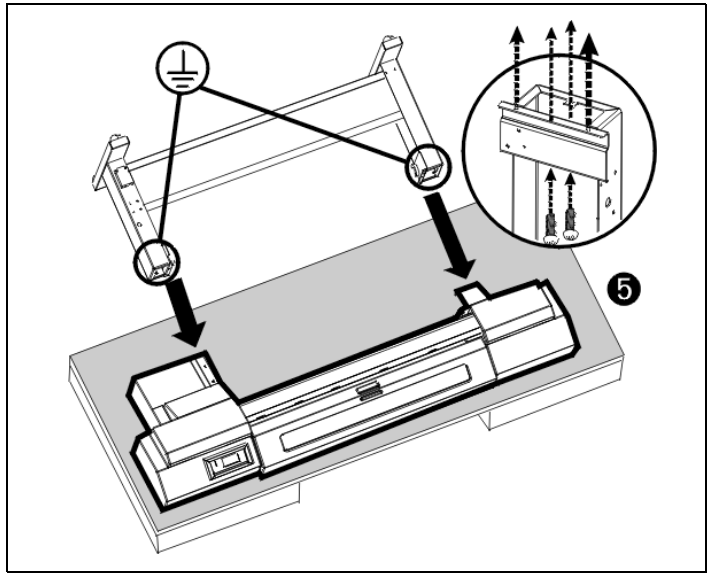

Fig. 1-2. Assemble the printer module and stand
2. Position the printer module **5** and stand for assembly as shown in Fig. 1-2.
3. Using the four SILVER Phillips head screws provided, attach the stand to printer module. (See Fig. 1-2.)